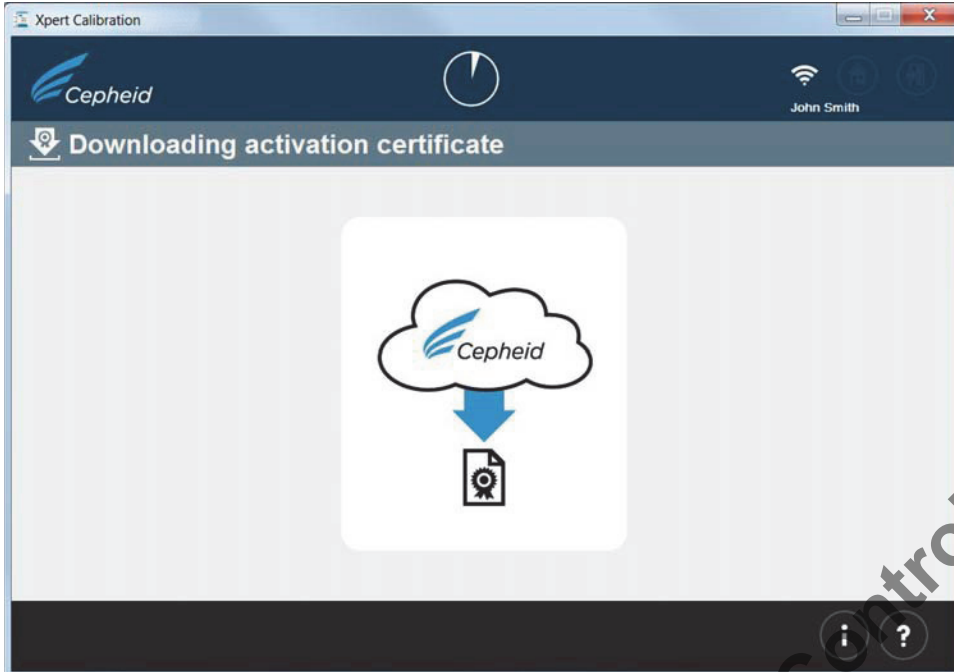

Figure 23. Downloading activation certificate Screen
Note: With a functioning internet connection, the system should proceed normally (with step 20), and the activation certificate should begin downloading, as shown in Figure 23.
20. When the calibration data has finished uploading, a Quality Assurance check will be performed on the data. If the check is acceptable, the activation code certificate will automatically download. See Figure 23.